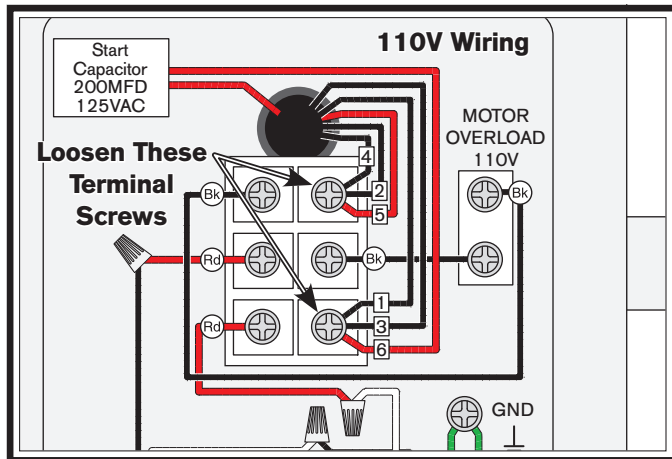

Figure 57. Wiring terminal locations.
2. Open the motor junction box, then loosen the wire terminals indicated in **Figure 57**. Remove the wires connected to those terminals.